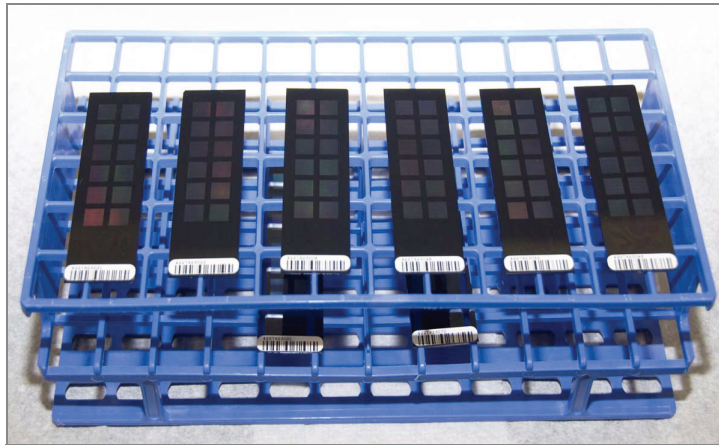

Figure 74 BeadChips on Tube Rack
- b. Place each BeadChip on a tube rack with the barcode facing up and towards you (Figure 74).
21. Remove the remaining BeadChips to the tube rack as described in step 19, with six BeadChips on top of the rack and two BeadChips on the bottom (Figure 74). The barcode ends should be towards you, and the BeadChips should be completely horizontal.